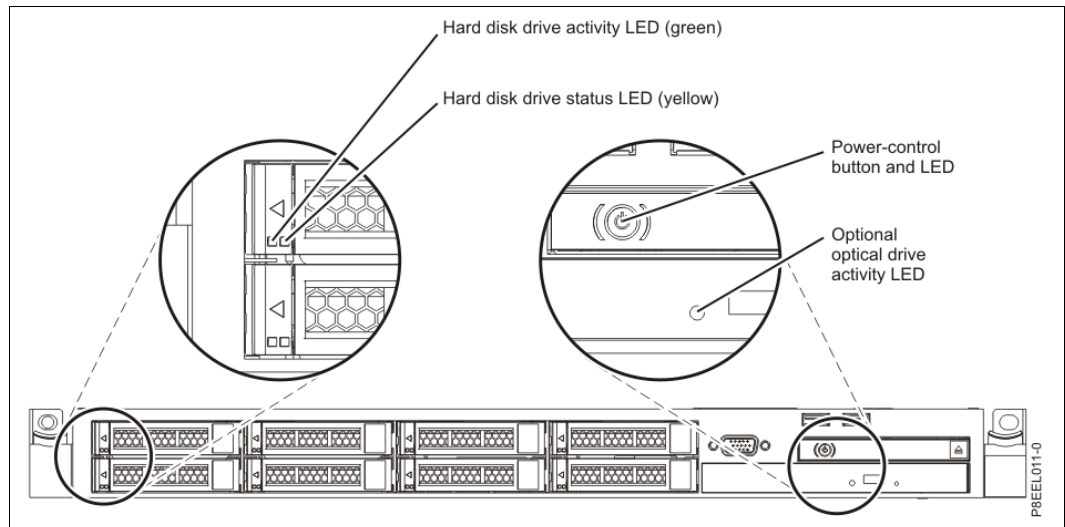

Figure 3-1 System attention LED locations
2. Plug the rack into the alternating current (AC) power source.
4. Ensure that the system attention LEDs are green and flashing for each component (see Figure 3-1).